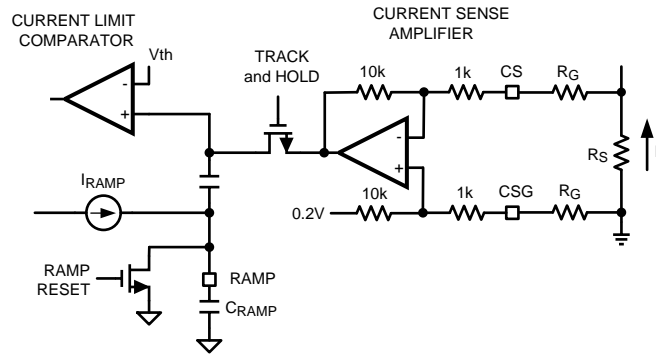

Figure 18. Current Limit and Ramp Circuit
The pedestal current sample is obtained from the current sense resistor (R_S) connected to the CS and CSG pins. It is sometimes helpful to adjust the internal current sense amplifier gain (A) to a lower value in order to obtain the higher current limit threshold. Adding a pair of external resistors R_G in a series with CS and CSG as shown in Figure 18 reduces the current sense amplifier gain A according to the following equation: